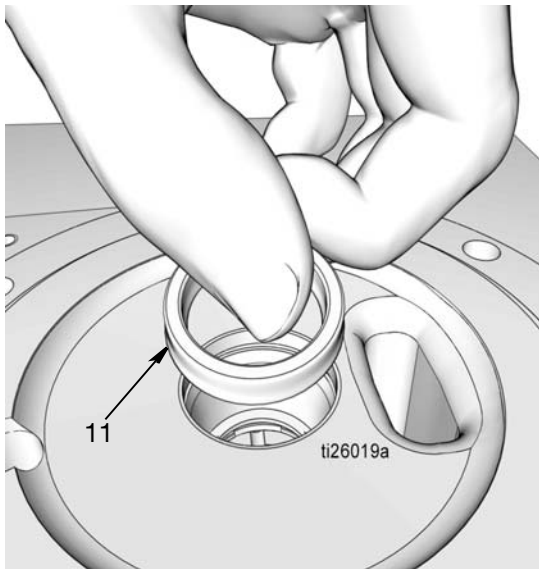

FIG. 32
- d. Install seal (11). Be sure the lips of the seal are facing down as shown in FIG. 32.